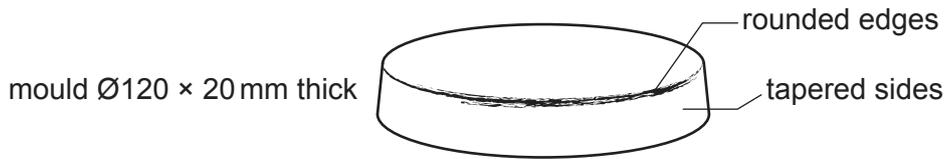

Fig. 13.4
- (d) The base of the acrylic desk tidy could be produced by the vacuum forming process. Fig. 13.4 shows the mould used to make the base.